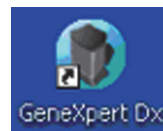

Figure 2-4. GeneXpert Dx System Shortcut Icon
5. The GeneXpert Dx software starts automatically on system startup. A GeneXpert Dx icon on the Windows desktop allows for manual software initiation. See Figure 2-4.